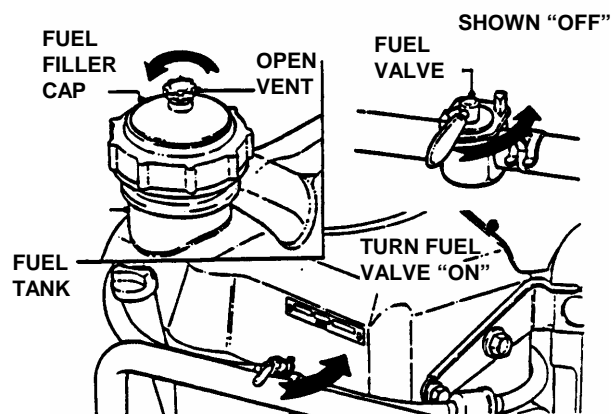

FIGURE 2.2
2.1.8. Add fuel to tank after pushing the Rear Engine Rider outside where fumes can dissipate. Make sure fuel filler cap is tight, vent is open and fuel valve is "ON" after refueling. Refer to engine owner's manual. See Figure 2.2.